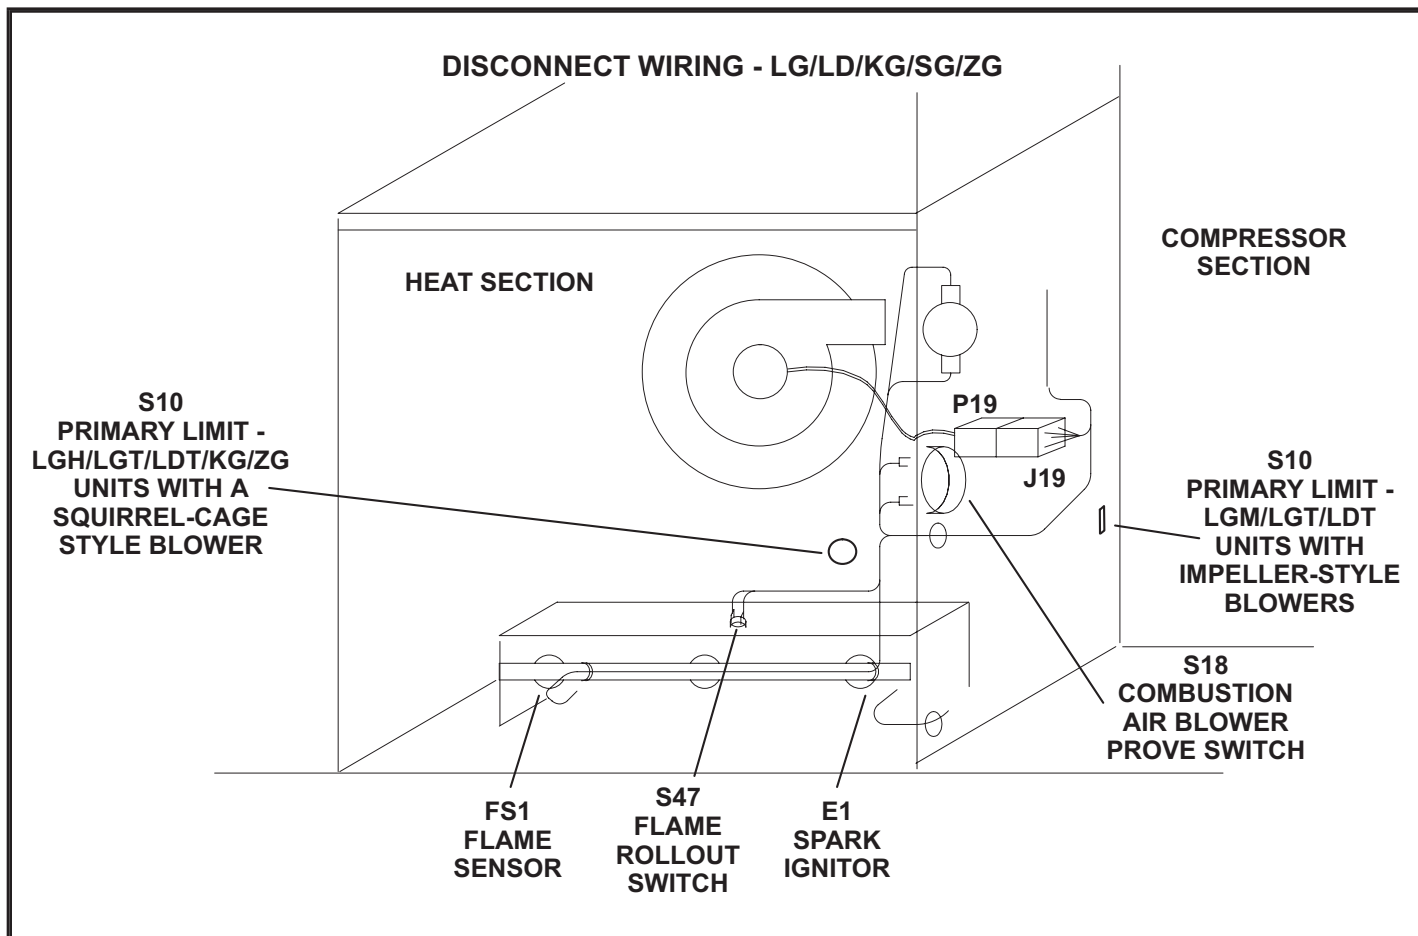

FIGURE 3
- 6 - Disconnect P19 from J19. See FIGURE 3.
- 7 - Disconnect wiring to ignitor, flame sensor, combustion air blower prove switch, and flame rollout switch. On LG/LD/KG/SG/ZG units, disconnect wiring to the primary limit. See FIGURE 3.
- 8 - Remove the two screws securing the combustion air blower prove switch. Discard the switch if tabs are broken. Retain the switch for reassembly if tabs are intact. See FIGURE 3.
- 13 - Remove J19 from the division panel between the heat and compressor sections. See FIGURE 3.